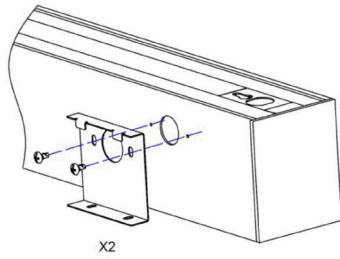

Fig. 7.4
3. Secure wall mount bracket to the luminaire. Holes will need to be drilled in the luminaire housing to accomplish this. (Fig 7.4)